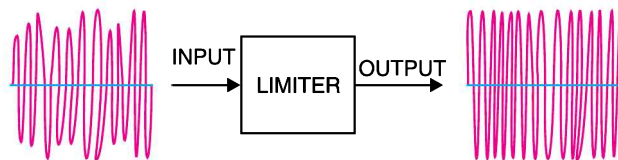

Fig. 16.22
3. Limiter Stage. The output from IF stage is fed to the limiter. This circuit is an IF amplifier tuned to 10.7 MHz but its main function is to remove AM interference from the FM signal. Fig. 16.22 shows how the limiter re-